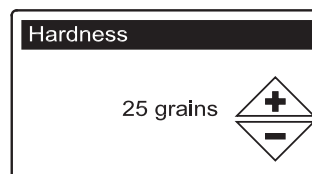

FIG. 19
21. **HARDNESS** Press the UP (▲) or DOWN (▼) buttons to set the value of your water's hardness (See Figure 19).